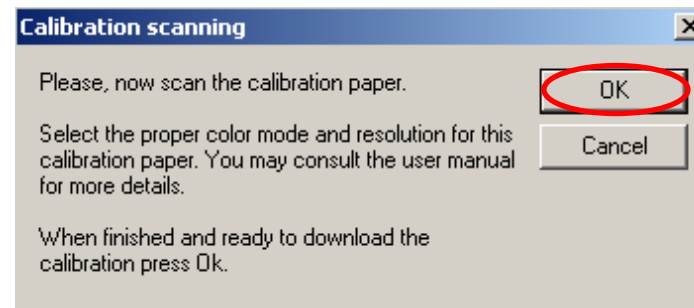

Fig 5
7. After the memory has been formatted the **Calibration scanning** dialog window will appear (Fig 5). Please **disconnect** the DocuPen from the USB cable and position it on top of the **Roller Calibration** sheet. Please scan the sheet in **high resolution (200 dpi)**.
8. The DocuPen will now save the Calibration image into memory. After the image is saved, please attach the DocuPen to the USB cable. Now press the **Power ON** button on the DocuPen and click the **OK** button within the **Calibration scanning** dialog window (Fig 5).